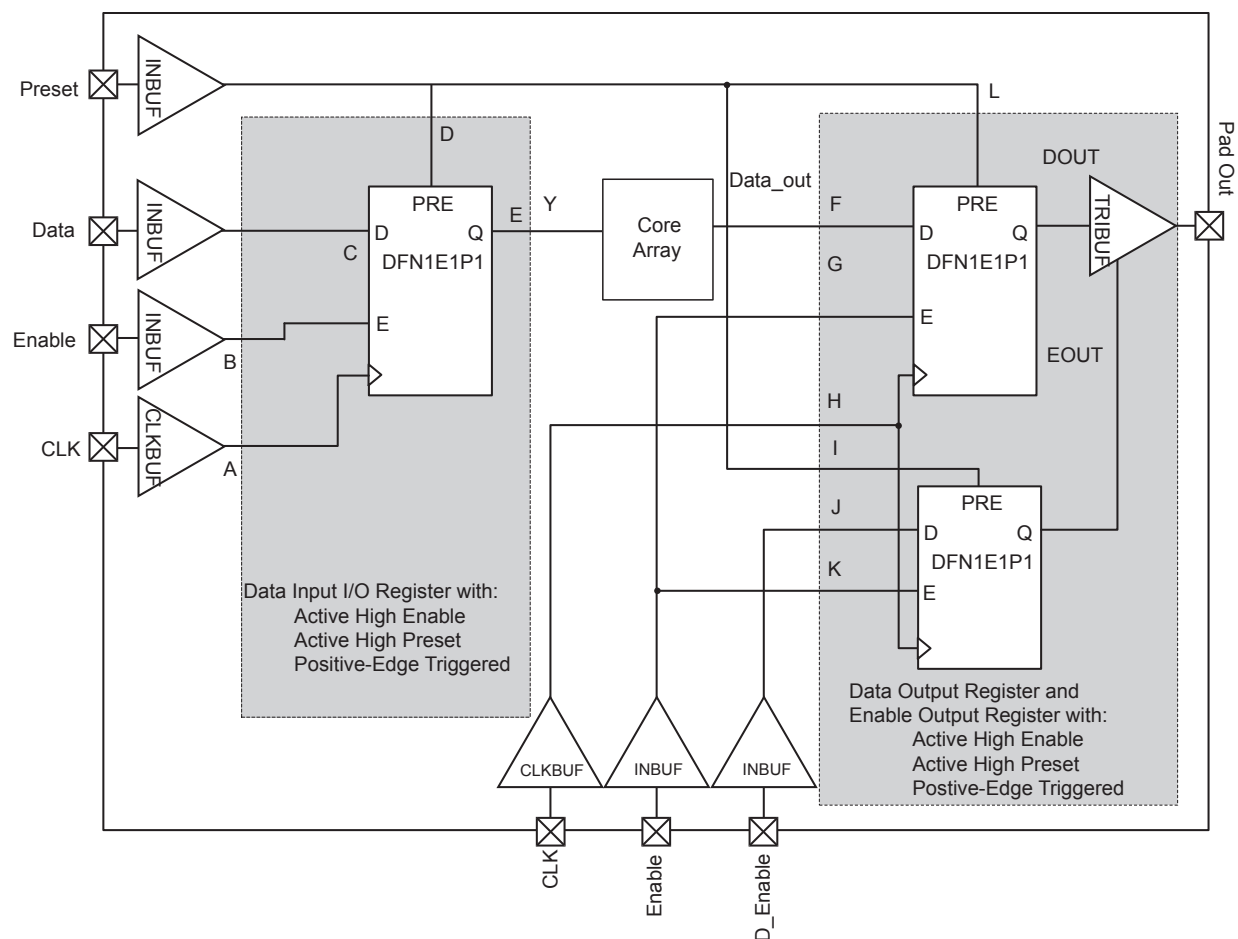

**Figure 2-26 • Timing Model of Registered I/O Buffers with Synchronous Enable and Asynchronous Preset**
*Note:* \*See Figure 2-26 on page 2-105 for more information.